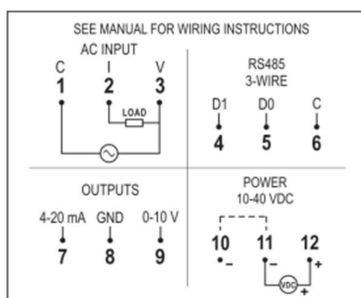

Fig. 03 – Electrical connections of the **DigiRail-VA**
**Fig. 03** illustrates the electrical connection terminals. Terminals 4, 5 and 6 connect to the RS485/Modbus interface. Terminals 7, 8 and 9 are intended for the analog outputs of the device (4-20 mA and 0-10 V – they share the same "negative" terminal). Terminals 10, 11 and 12 are used to power the **DigiRail-VA** (terminals 10 and 11 are interconnected internally).